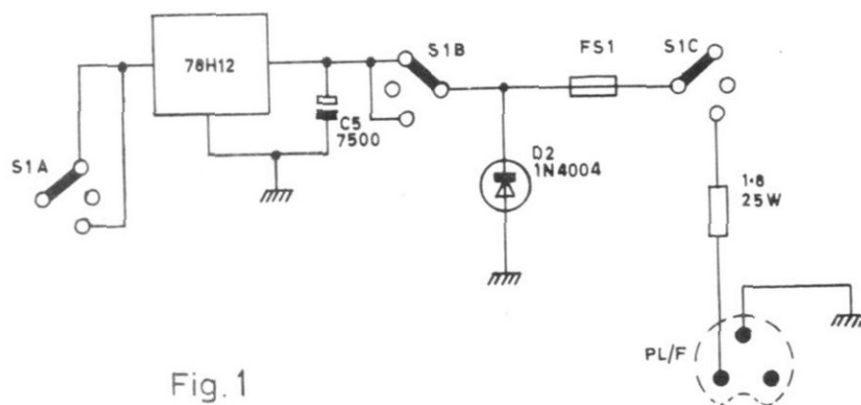

Fig. 1
- NOTE The foregoing points, together with Switch 4S1A and 4S1B link modifications, are clearly illustrated in Fig. 1 overleaf.